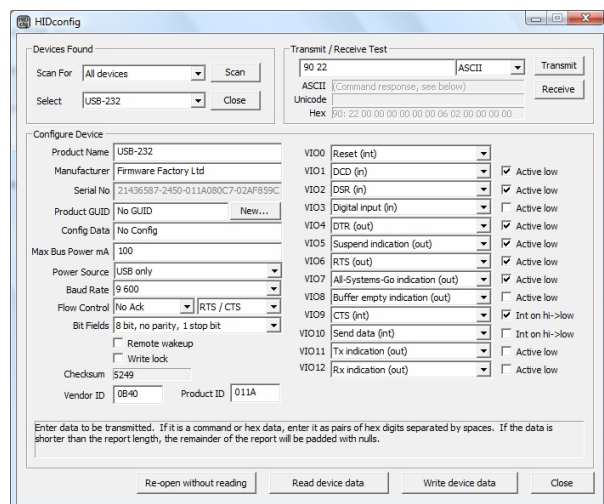

Figure 8. *HIDconfig.exe* application
1. Using the *HIDconfig.exe* application (figure 8) in the development kit. This application makes it very easy to copy the configuration from an existing product to a new product and is suitable for in-factory use. (It cannot be used if you have changed the Vendor ID and / Product ID.)